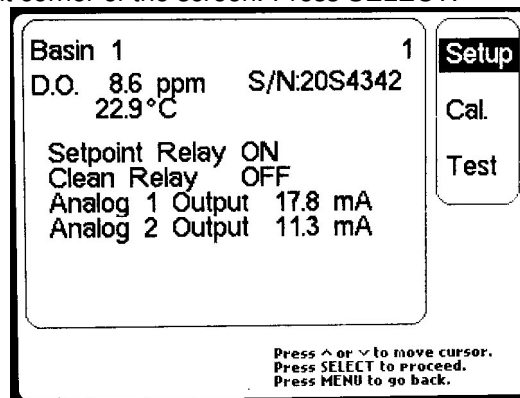

Figure 21 - Channel Info (D.O.)
2. The CHANNEL INFO screen (Figure 21), should have the word SETUP highlighted on the upper right corner of the screen. Press SELECT.
2. The CHANNEL INFO screen (Figure 21) should have the word SETUP highlighted on the upper right corner of the screen. Press SELECT.
2. The CHANNEL INFO screen (Figure 21) should have the word SETUP highlighted on the upper right corner of the screen. Press SELECT to enter the CHANNEL SETUP screen for that D.O. channel.
2. From the CHANNEL INFO screen (Figure 21), use the up or down arrow keys to highlight the word TEST on the right side of the screen, then press SELECT.
2. From the CHANNEL INFO screen (Figure 21), press the down arrow key once to highlight the word CAL, then press SELECT.
- From the CHANNEL INFO screen (Figure 21), press the down arrow key once to highlight the word CAL, then press SELECT.